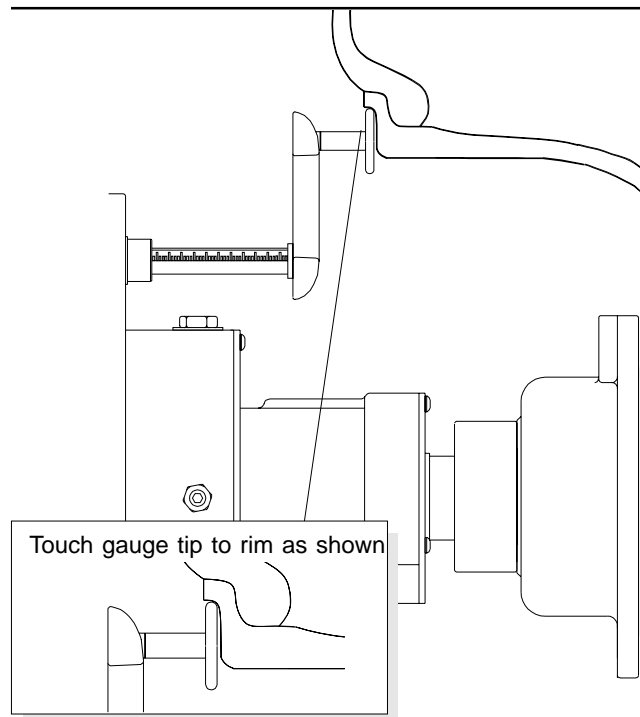

Figure 3
2. Move the Semi-Automatic Parameter Entry (SAPE) arm to the edge of the rim, touch the pointer to the rim edge as illustrated in *Figure 3* and hold steady for about a second. The beeper will sound and the selected distance and diameter values will be entered automatically. Release the arm, making sure it returns to its home position on the balancer. Do not allow the measurement arm to "dangle" down in front of the balancer.
2. Enter left plane distance and diameter using the SAPE as you would a dynamic 2-plane balance. Fig.3